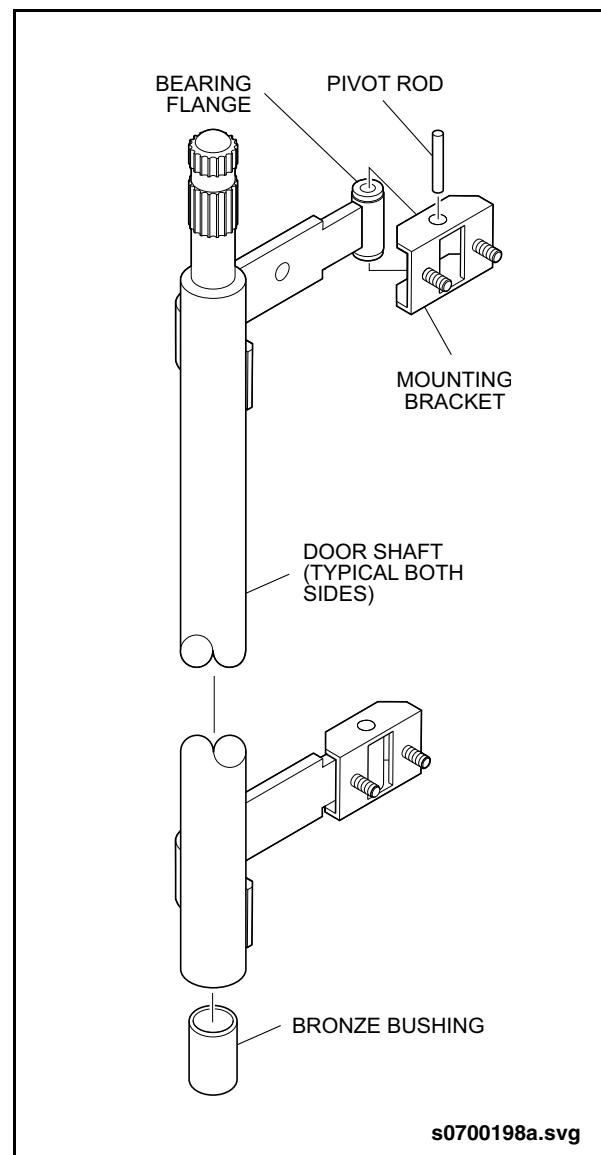

Fig. PM-47: Exit Door Shaft
- The upper and lower hinged mounting brackets attach the door shaft and arm assembly to the exterior side of the door panel. A lubrication fitting is provided on the hinged mounting bracket to allow lubrication of the flanged bronze bushing from the exterior of the vehicle. See “Fig. PM-47: Exit Door Shaft” on page 103. Check door shaft and arm assemblies for any evidence of bending, twisting, or other physical damage. Repair or replace damaged door shaft and arm assemblies as required.